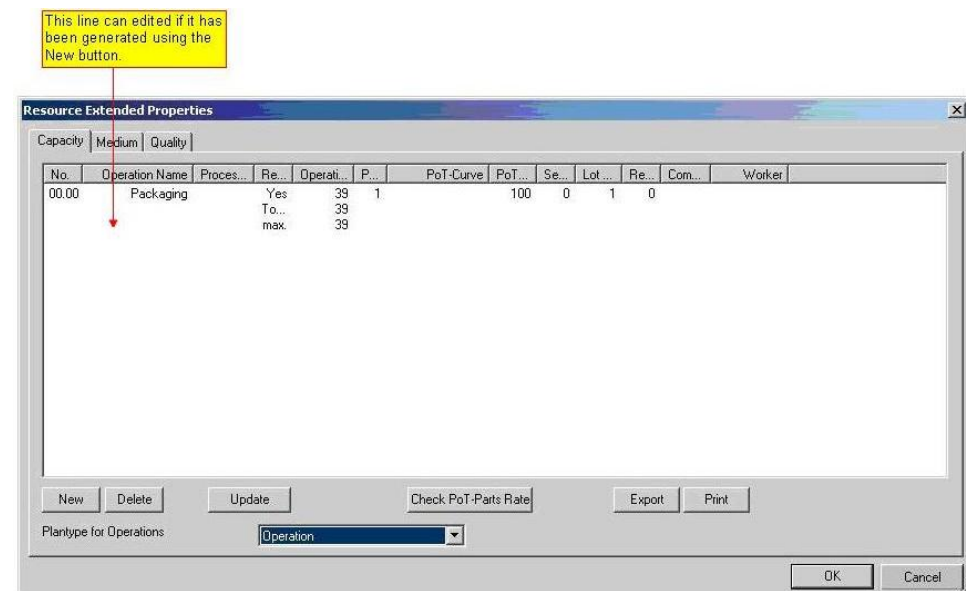

Figure 105: Value-Adding Resource – Capacity Tab
*The **Resource Extended Properties – Capacity** dialog allows you to delete only lines you have previously created in this location. In contrast to that, you may not delete a process that has been assigned by the PPR Navigator. After all, not all fields are to be edited. Such relations must be retained. Please refer to the Figure 105.*
- 1) Select the plantype for the operation. *Please refer to the Figure 105.*
For each worker, the **Extended** Properties provide capacity and quality tabs for editing purposes. For Capacity and Quality entries, *Please refer to the Figure 105 and Figure 108.*